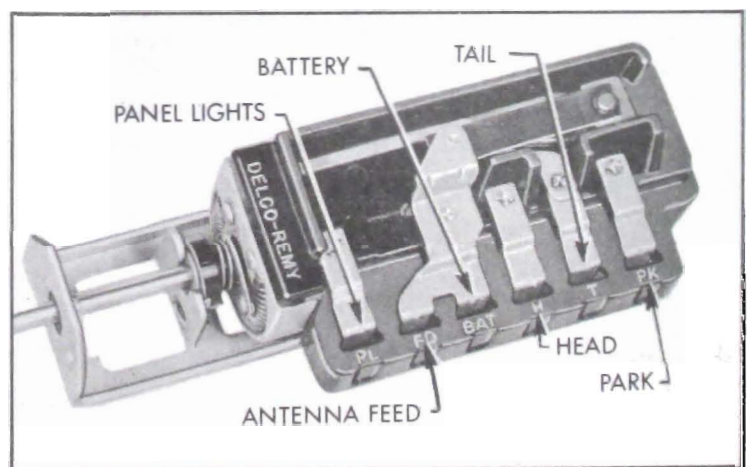

Figure 10-48—Lighting Switch
If the lighting switch is suspected of being faulty, the contacts can be tested by connecting a short jumper wire between the switch "BAT" terminal and the other terminals while observing any change in the brilliance of lights affected. See figure 10-48.
3. Remove switch mounting nut with Wrench J-1589-A and remove switch and escutcheon from instrument panel. See figure 10-48.